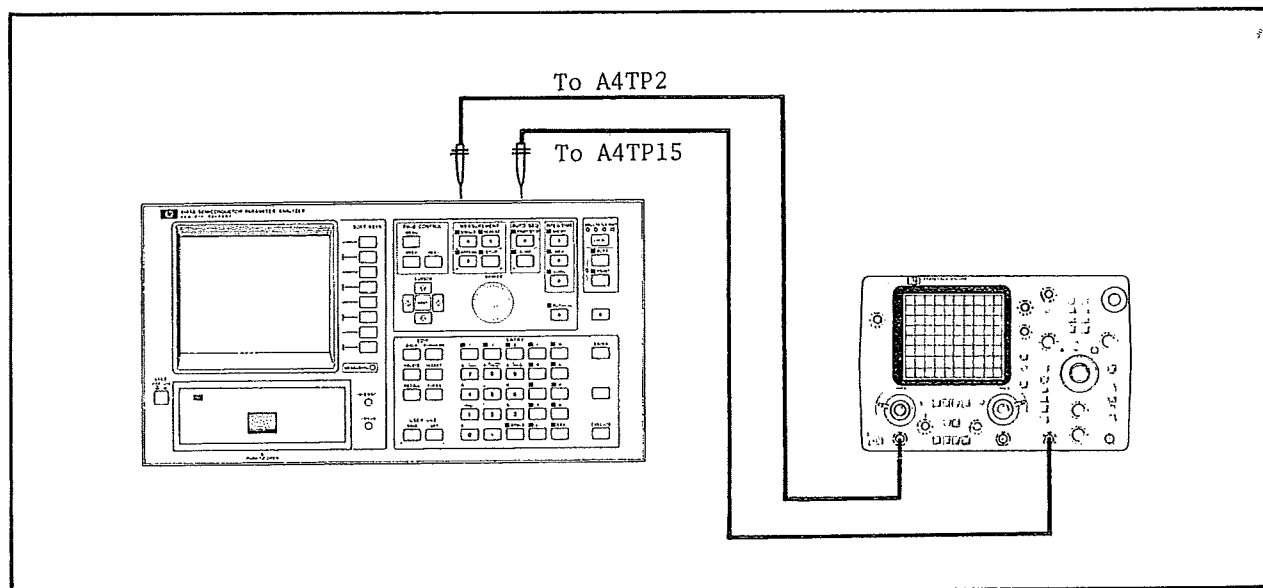

Figure 5-11. Demultiplexer Noise Rejection Adjustment Setup.
4. Connect DVM HI input to A4TP2 (-10V), LOW input to A4TP13 (AGND : analog ground), and EXT TRIGGER input to A4TP15 (see Figure 5-11 for the locations).
7. Adjust A4R11 (see Figure 5-11 for location) until the reading on the DVM is $-10.000V \pm 0.5mV$. The voltage at A4TP2 is a staircase signal. Adjust A4R11 only at the -10V step.